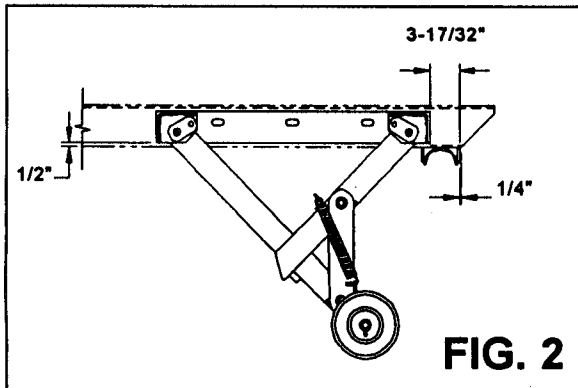

FIG. 2
3. Measure the distance from the bottom of the truck frame to the ground (NOTE: This should be performed on a level surface). Based this measurement and the dimensions in Fig. 1, the vertical channel [P/N: 63H94] may need to be modified in length to meet the Office of Motor Carrier Safety (OMCS) regulations. Regulation 393.86 requires that no bumper be located more than 30" off the ground when the truck is empty, and the end of the bumper should not be located more than 24" from the extreme rear of the vehicle, including truck bodies (See Fig. 2). Once the length has been determined for the vertical channels, weld them to the truck frame (See additional notes on next page).
- Position drop down bumper on the longsills of the sub-frame (See Fig. 2 & 3). The mount brackets [Part No. 51H17] need to be positioned correctly to allow for sufficient room for bumper cradles [Part No. 51H19] (See Fig.2). Weld mount brackets onto the longsills of the sub-frame.
- Position bumper cradles [Part No. 51H19] on the longsills of the sub-frame. Check bumper cradles for squareness with respect to each other. The bumper tube [Part No.51H16] should come to rest within the bumper cradles when the container rests on the ground (See Fig. 2 & 3). Weld bumper cradles into place on longsills.
3. Weld the front [62H87] and rear [62H88] brackets to the support bars. Be sure to maintain the dimensions as indicated so that the bumper folds properly (See Fig. 2 & 3).
5. Attach cab guard weldment to truck frame using fasteners provided (See Fig. 2).
2. Center fender above tire using block to maintain the proper height. Fender should be approximately 6" above tire to allow for suspension movement (See Fig. 1). A maximum width of 48" from center of the truck to the outside edge of the fender should be maintained (See Fig. 2).